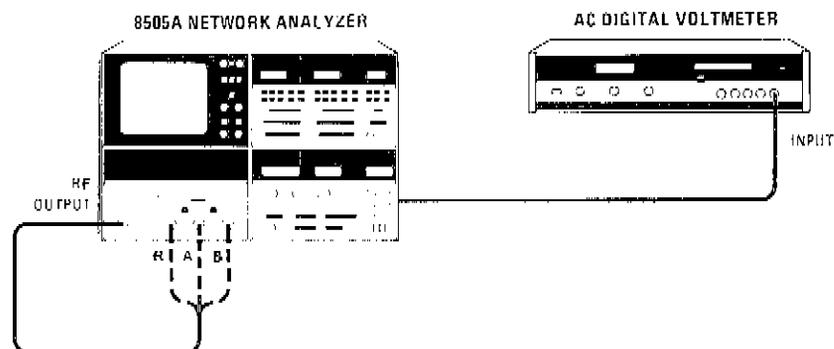
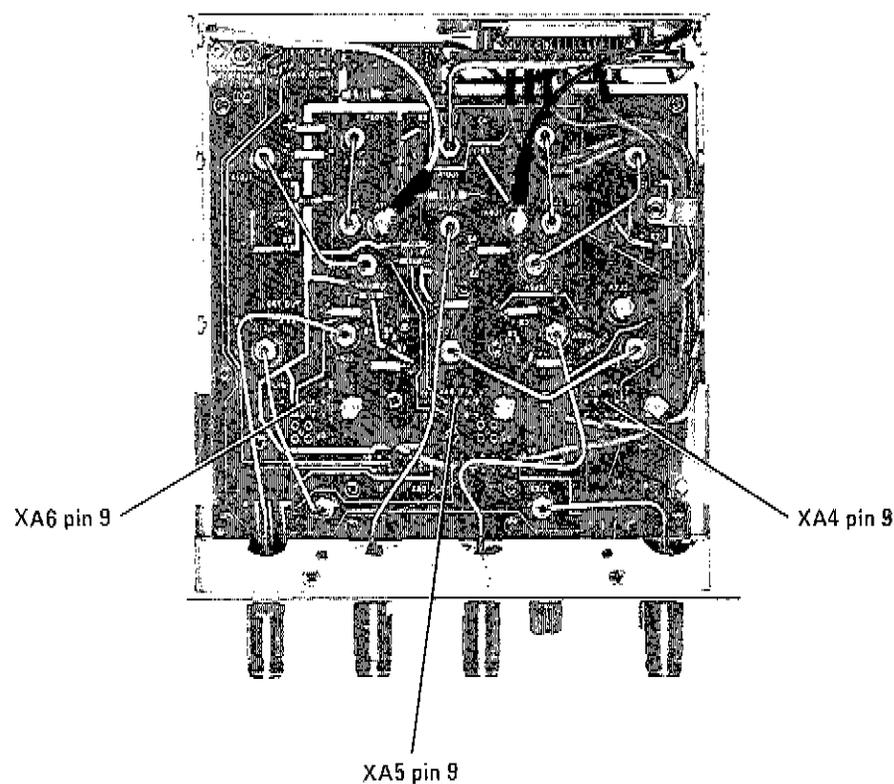
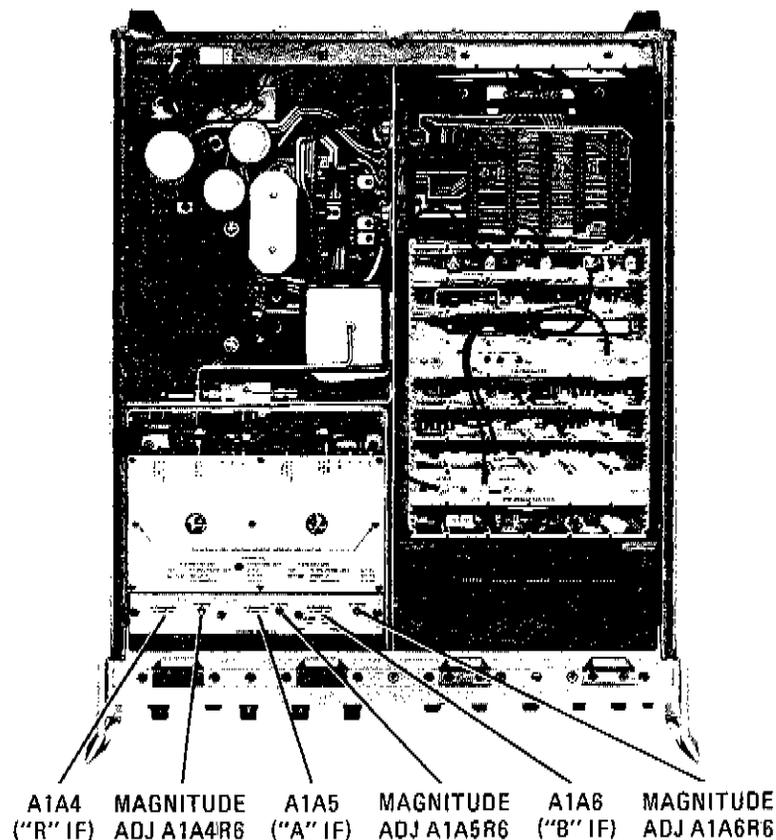

Figure A5-7. Receiver Output Test Setup
Figure A5-8. IF Amplifier Signal Test Points on A1A14 Mother Board.
Figure A5-9. IF Amplifier A1A4/A5/A6 Adjustment Locations
- a. Connect equipment as shown in Figure A5-7 with RF OUTPUT connected to R INPUT. Connect AC Digital Voltmeter (DVM) to pin 9 of XA4 as shown in Figure A5-8.
- c. Adjust MAGNITUDE ADJ A1A4R6 on "R" Channel IF amplifier A4 (Figure A5-9) for a DVM indication of 0.35 VRMS \pm 0.02 VRMS.
- d. Disconnect coaxial cable from the front panel R INPUT and connect it to A INPUT. Disconnect the DVM from Pin 9 of XA4 and connect it to Pin 9 of XA5 (Figure A5-8). Adjust MAGNITUDE ADJ A1A5R6 on A Channel IF amplifier A5 (Figure A5-9) for a DVM indication of 0.35 VRMS \pm 0.02 VRMS.
- c. Disconnect cable from the front panel A INPUT and connect it to B INPUT. Disconnect the DVM from Pin 9 of XA5 and connect it to Pin 9 of XA6 (Figure A5-8). Adjust MAGNITUDE ADJ A1A6R6 on B Channel IF amplifier A6 (Figure A-9) for a DVM indication of $0.35 \text{ VRMS} \pm 0.02 \text{ VRMS}$.